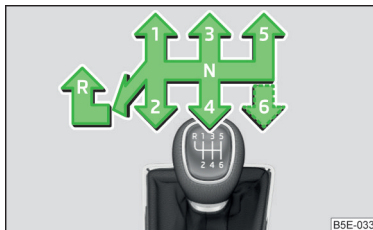

Fig. 243
The gearshift pattern for the individual gear positions is shown on the gear lever » Fig. 243.
- › Push the shift lever downwards fully to the left and then forward into **R**» Fig. 243.